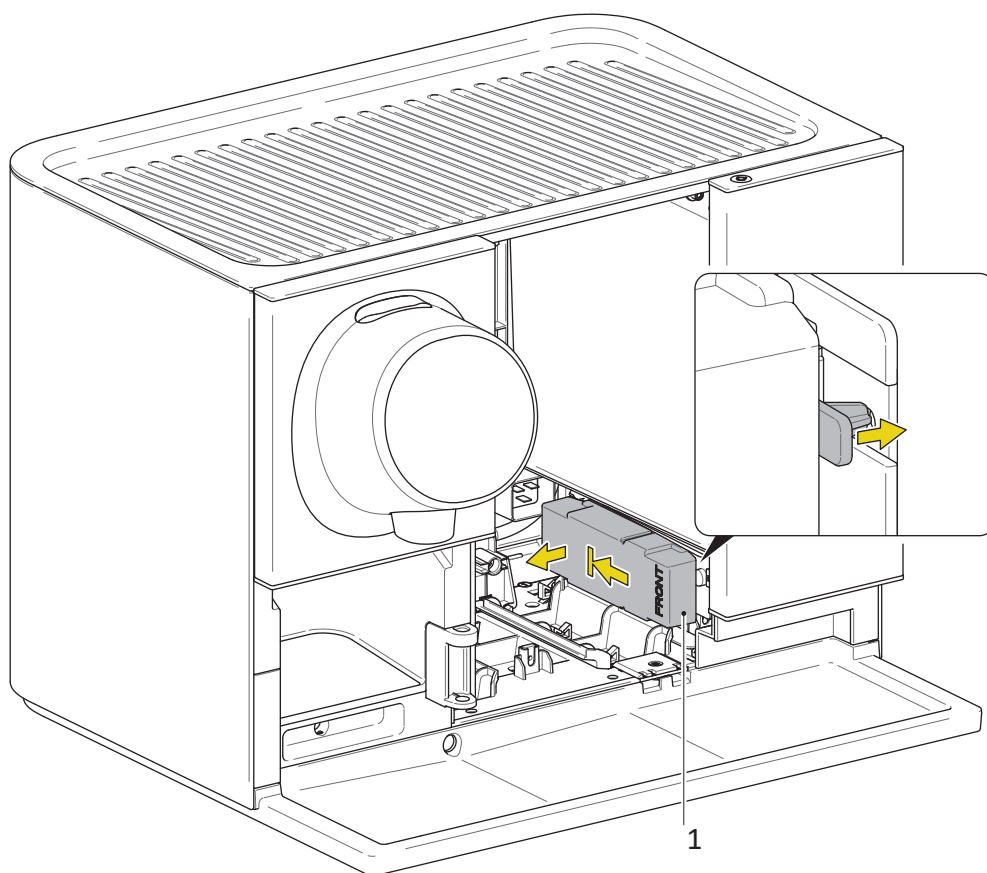

Fig. 46
1. Remove the EMC PCB lid → Fig. 46 on p. 93.
2. Unplug the receptacles on the EMC PCB (1) coming from the ON/OFF switch.
- EMC PCB lid is removed → Fig. 46 on p. 93.